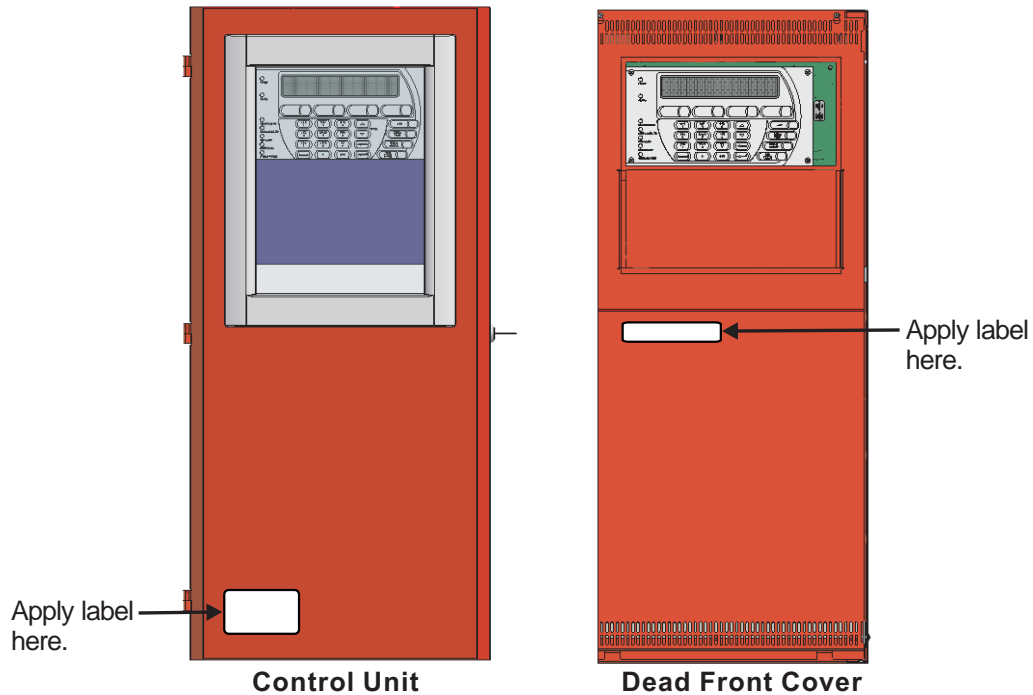

Figure G-3. Door and Dead Front Cover Label Placement
1. Install the “Fire Alarm System (Kidde)” label on the bottom left corner of the control unit door as shown in Figure G-3.
2. Install the “Chicago Approval No.” label on the dead front cover as shown in Figure G-3.